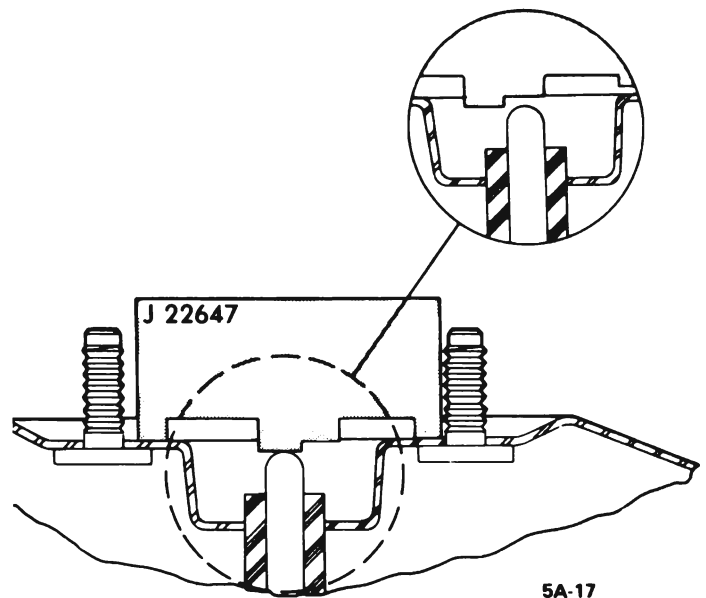

Figure 5A-32 Gauging Piston Rod
5. Place Gauge J-22647 over the piston rod in a position which will allow the gauge to be slipped to the left or right without contacting the studs. See Figure 5A-32.